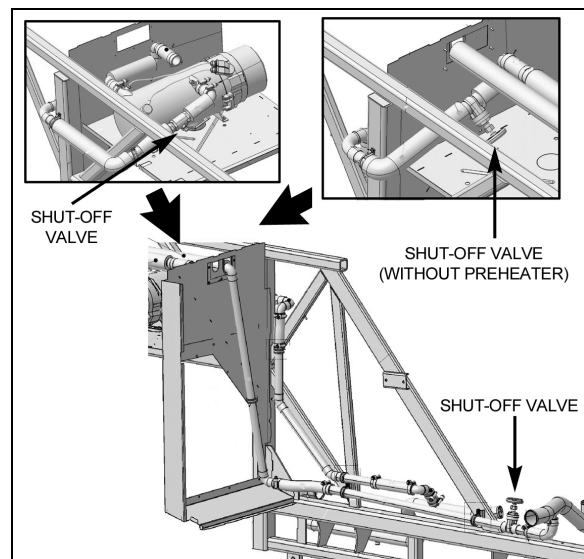

FIGURE 12: HEATER LINE SHUTOFF VALVES
1. Stop engine and allow engine to cool. Close both heater line shut-off valves. One valve is located in the engine compartment near the water pump (Fig. 12). Another valve is located behind rear fender, above the L.H. rear wheelhousing near the optional coolant heater.